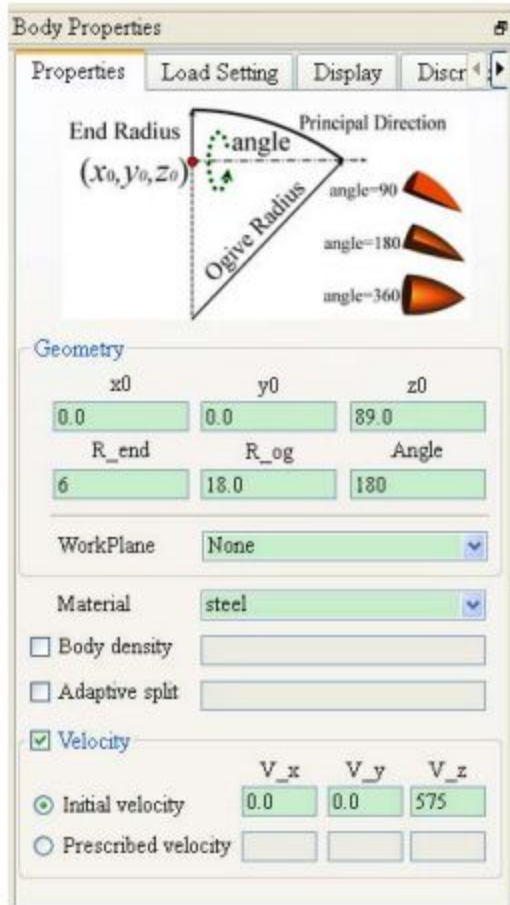

图 5.13: ogive 属性页设置
c. fill in the Properties page attribute value, as shown in Figure 5.13 below.